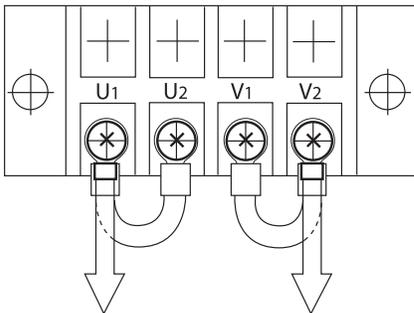

Figure 26: Output Terminal Board, 120 Volt Output
- b. Connect U1 to U2 and V1 to V2 on the output terminal board (Figure 26). Connect 120 volt output leads to terminals U1 and V2.